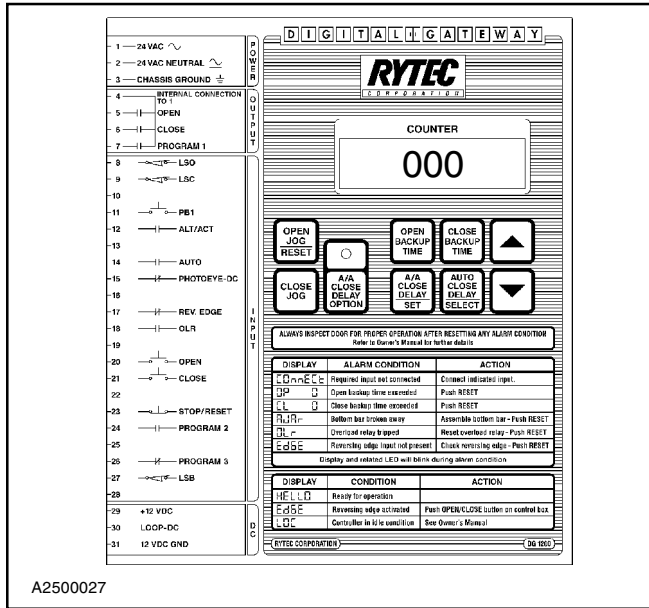

Figure 20
1. To enter into the programming mode press and hold both the Open and Close Backup Time buttons for three seconds. The display will change to three 0's as shown in Figure 20. To continue the programming mode, you will have to enter the three digit security code. Contact the Rytec Customer Support Department at (414) 677-9046 for the code.